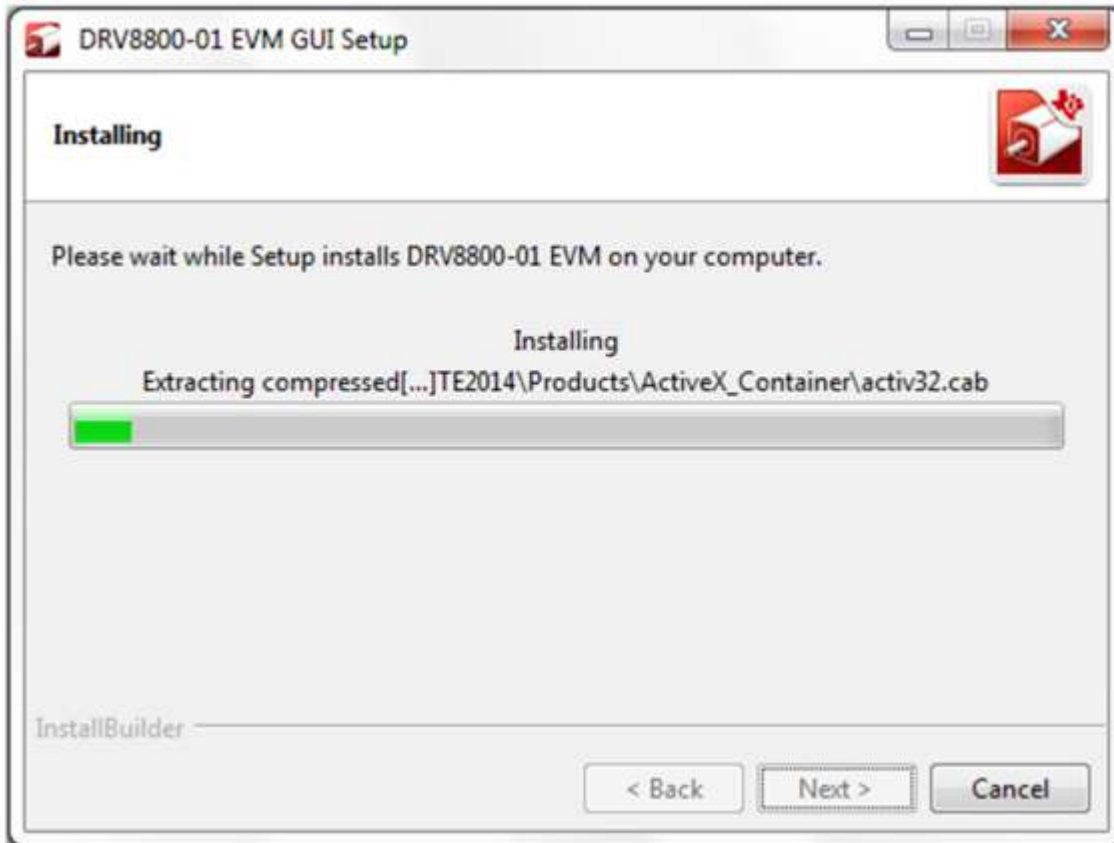

Figure 11. LabVIEW RTE Self Extraction
10. Once the Download completes, LabVIEW begins with the self-extraction as shown in Figure 11.